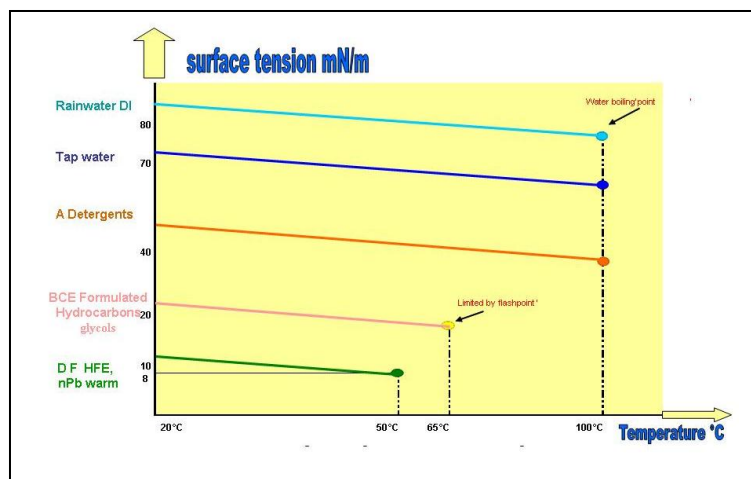

Figure 5, Surface tension chart
Detergents A are good most of the time, but very specific to the type of fluxes to be removed. Its concentration is very important in water and can vary between 3 to 50 %wt in some cases. The temperature can vary from 20-60°C, and the agitation used, sprays, spray under immersion or ultrasonic's should be considered. It is the aqueous cleaning process. The drawbacks of these detergents are: the removal of all residues under components because of the poor/high surface tension included between 40-50mN/m, the aggression of these formulations and its compatibility with materials, the rinsing with tap or DI water (high surface tension 70-80mN/m), the drying operation, the water-proof compatibility and the disposal of soiled mixture. (Figure 5). The total cost of these should also be considered.
Let's consider demineralised water (A) which has a surface tension of around 80mN/m (Figure 5). This line is bending as a function of the increase of the temperature. The variation is of about -10 mN/m,. It is the reason why cleaners are warmed up into washing units; to reduce the surface tension and to move underneath cavities and components. There is the same issue with tap water (B), where its surface tension starts at 70mN/m at room temperature.
As solvents evaporate and condense on the free-boards of the vapour phase equipment, no residues are left on the PCBs and the surfaces, including under the components. (Figure 5)